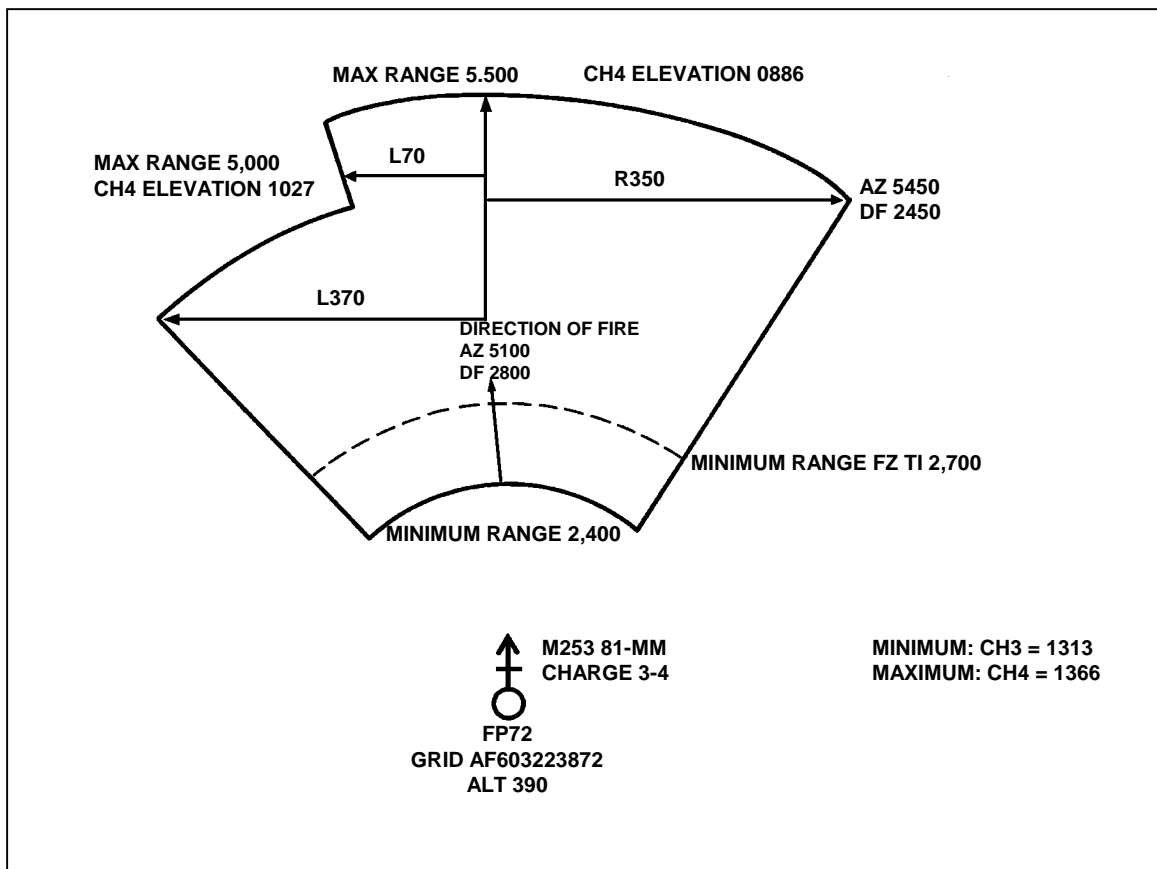

Figure B-3. Basic safety diagram.
b. The basic safety diagram is constructed (Figure B-3) as follows:
(1) On a sheet of paper, draw a line representing the direction of fire for the firing unit. Label this line with its azimuth (AZ) and the referred deflection (DF) for the weapon system.
(2) Draw lines representing the lateral limits in proper relation to the line on which the section is laid. Label the lateral limits with the appropriate azimuths.
(3) Draw lines between the lateral safety limits to represent the minimum and maximum ranges. Label each line with the appropriate range. If the minimum range for fuze (FZ) time (TI) is different from the minimum range, draw a dashed line between the safety limits to represent the minimum range for FZ TI. Label the line with the appropriate range.
(4) Compute the angular measurements from the azimuth of lay to the left and right safety limits by comparing the azimuth of lay to the azimuth of each limit. On the diagram, draw arrows indicating the angular measurements and label them.
(5) Apply the angular measurements to the deflection corresponding to the azimuth of fire to determine the deflection limits (LARS).